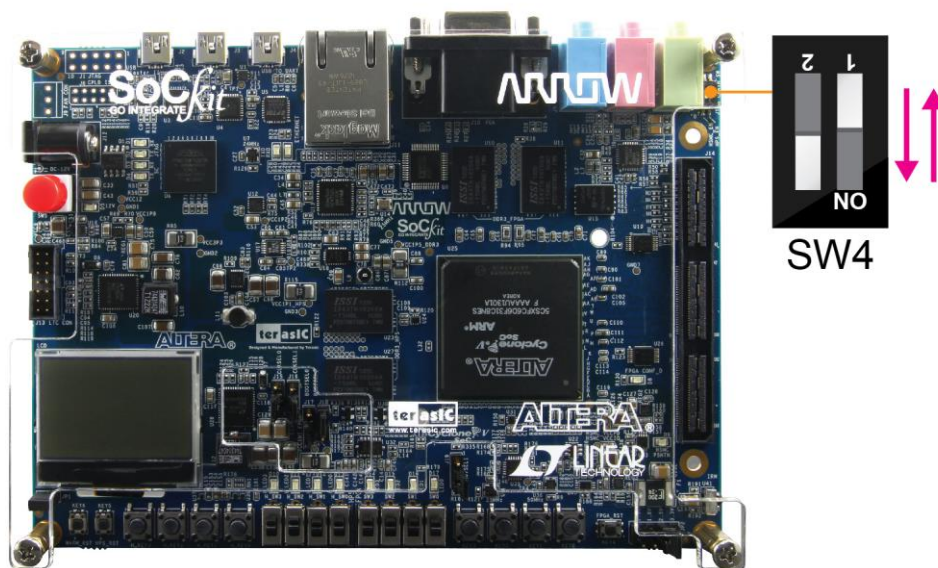

Figure 3-5 JTAG_EN
- Set SW4.1 to off and SW4.2 to on represent HPS in JTAG chain and bypass HSMC (See Figure 3-5).